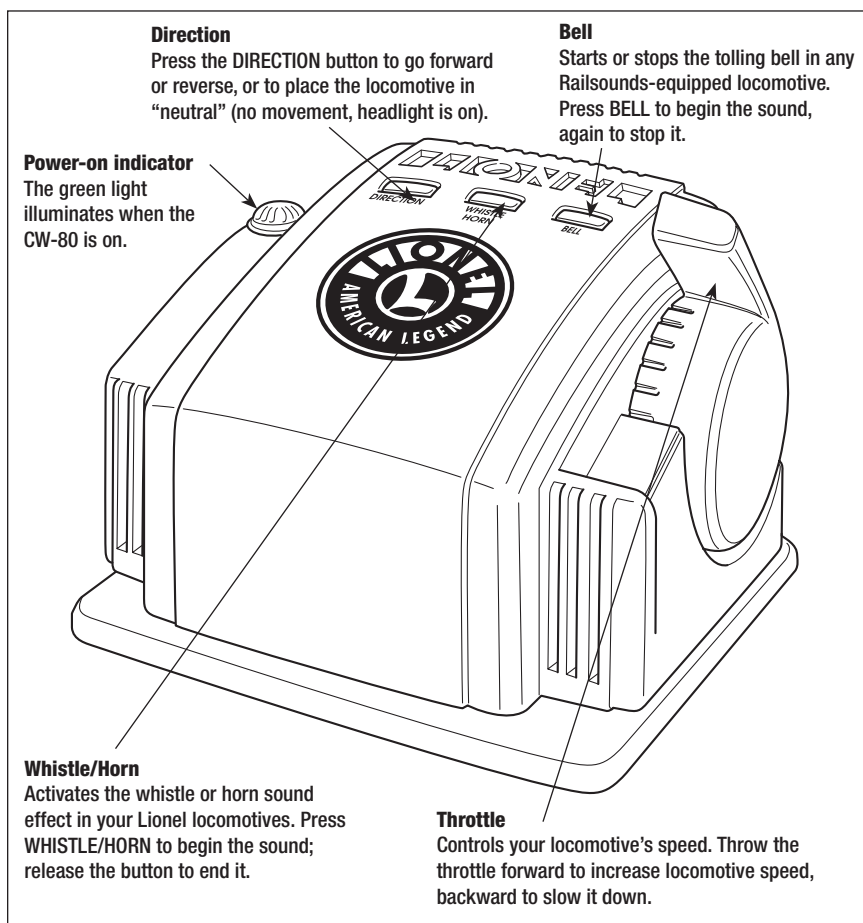

Figure 4. Transformer features
Refer to Figure 4 on page 8 for the location of the Transformer features listed in this section.
- 2. Press and hold down the DIRECTION, WHISTLE/HORN, and BELL buttons on the Controller. Refer to Figure 4 for the location of these buttons.**